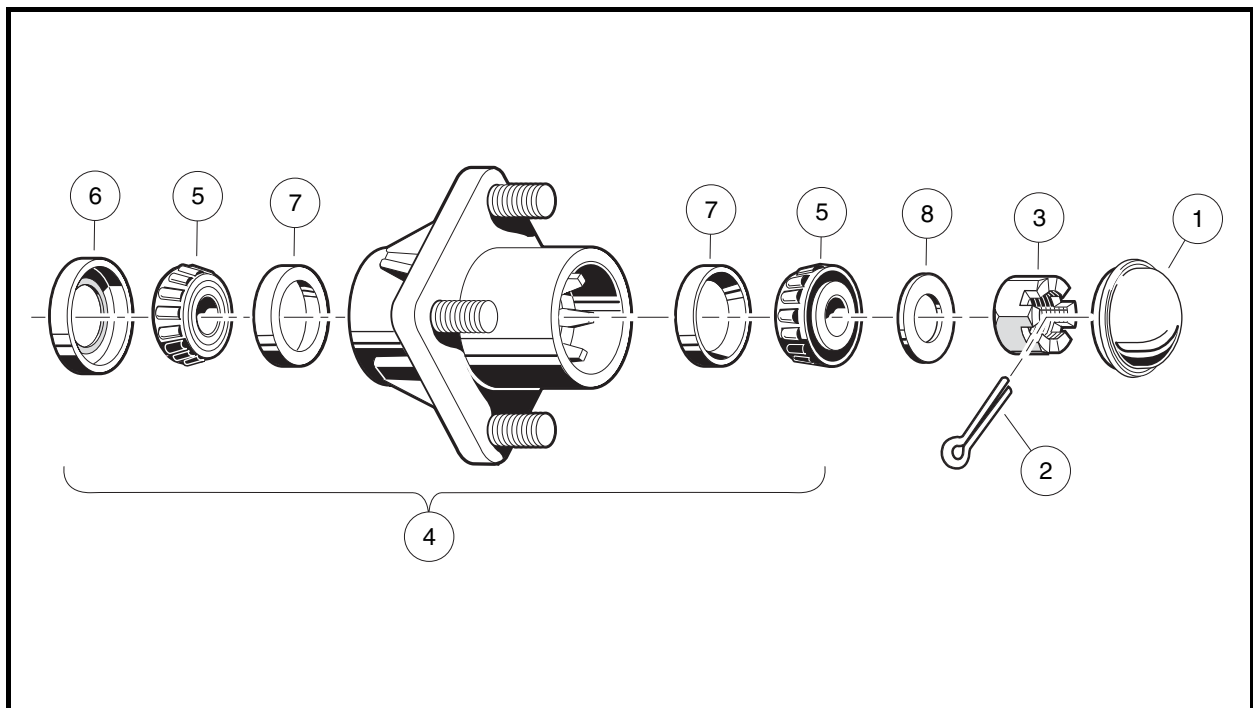

Figure 7-25 Front Wheel Bearings and Hub - Four-Wheel Brake Vehicles
2. Using your hands, attempt to rock the wheel and hub assembly back and forth on the spindle. If there is any observable movement of the wheel and hub on the spindle, remove dust cap (1) and cotter pin (2), and then tighten the spindle nut (3) until the bearing (5) fully seats in the bearing race (7).
4. Install a new cotter pin (2). If movement continues, replace the wheel bearings (5) as required (Figure 7-25, Page 7-23).
- 2.1. Remove dust cover (1), cotter pin (2), spindle nut (3), and flat washer (8) (**Figure 7-25, Page 7-23**).
1. Pack the wheel bearings (5) and hub cavities, and lubricate cups (7) with wheel bearing grease or chassis lube. Make sure the grease is forced between the rollers (**Figure 7-25, Page 7-23**).
2. If bearing cups (7) were removed, press new ones in squarely against stops in the hub. **See following NOTE.**